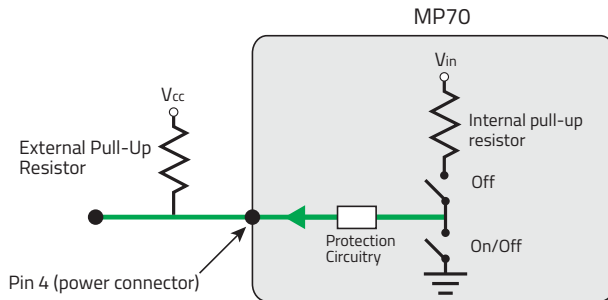

Figure 2-16: Digital Output/Open Drain
- Digital outputs / open drains: See Table 2-9 on page 29 and Figure 2-16 on page 29.